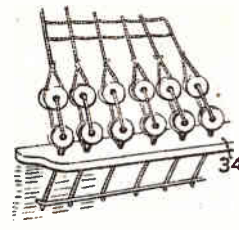
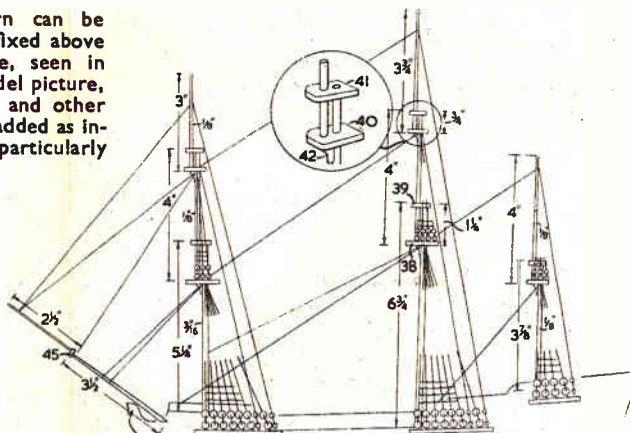

Fig. 10—Channels and deadeyes
Fig. 9—The standing rigging and masts
ments are given in Fig. 9. A detail of the fitting of the join is given in one case, and follows through for all positions. The shrouds and ratlines run from each top strip downwards and are held in dead eyes. Those by the bulwarks are fixed to channels. These channels are strips of wood (34) glued on edge. They are pierced with a small hole as indicated to take the cords of the shrouds carried to the hull underneath. A detail at Fig. 10 shows the construction clearly. Remember to glue these channels very firmly, as they have to take the strain of the lines.